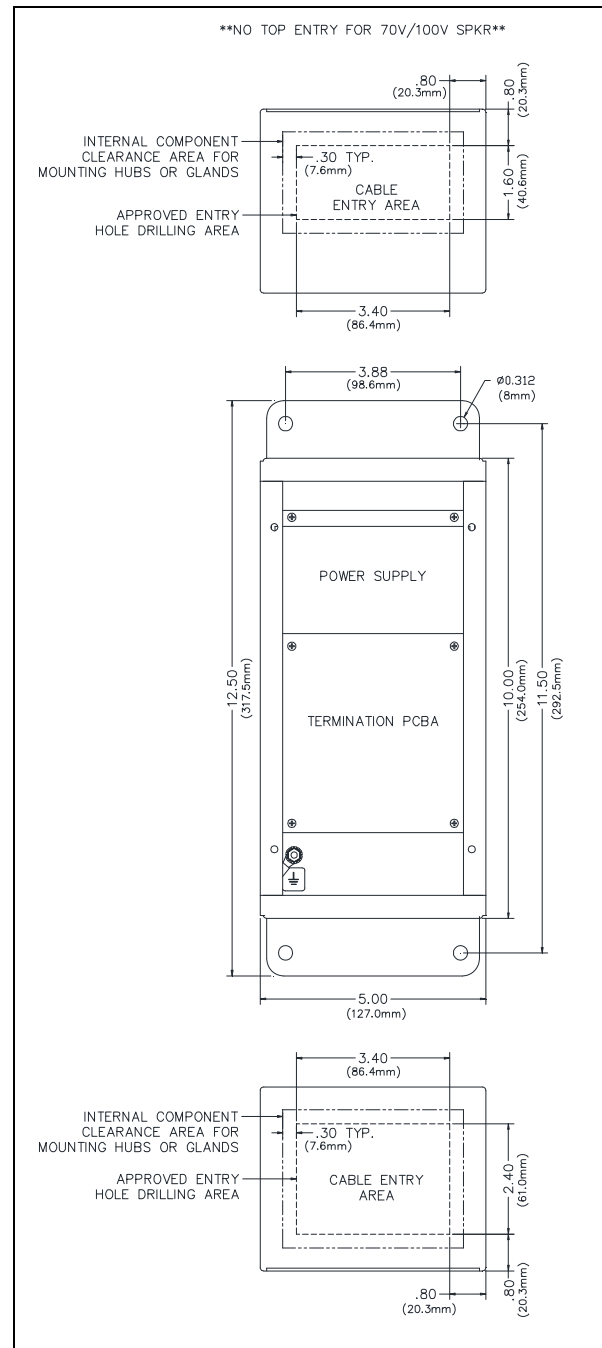

Figure 3. Suggested Wire Entry Locations
1. Mount the enclosure using the four 0.312-inch (8 mm) diameter holes located on the mounting flanges with ¼-inch (M6) hardware (see Figure 3).
3. Drill or punch entry openings in the rear section of the enclosure (see Figure 3).
2. Secure it to the ground terminal located at the lower left corner in the back of the rear enclosure (see Figure 3).